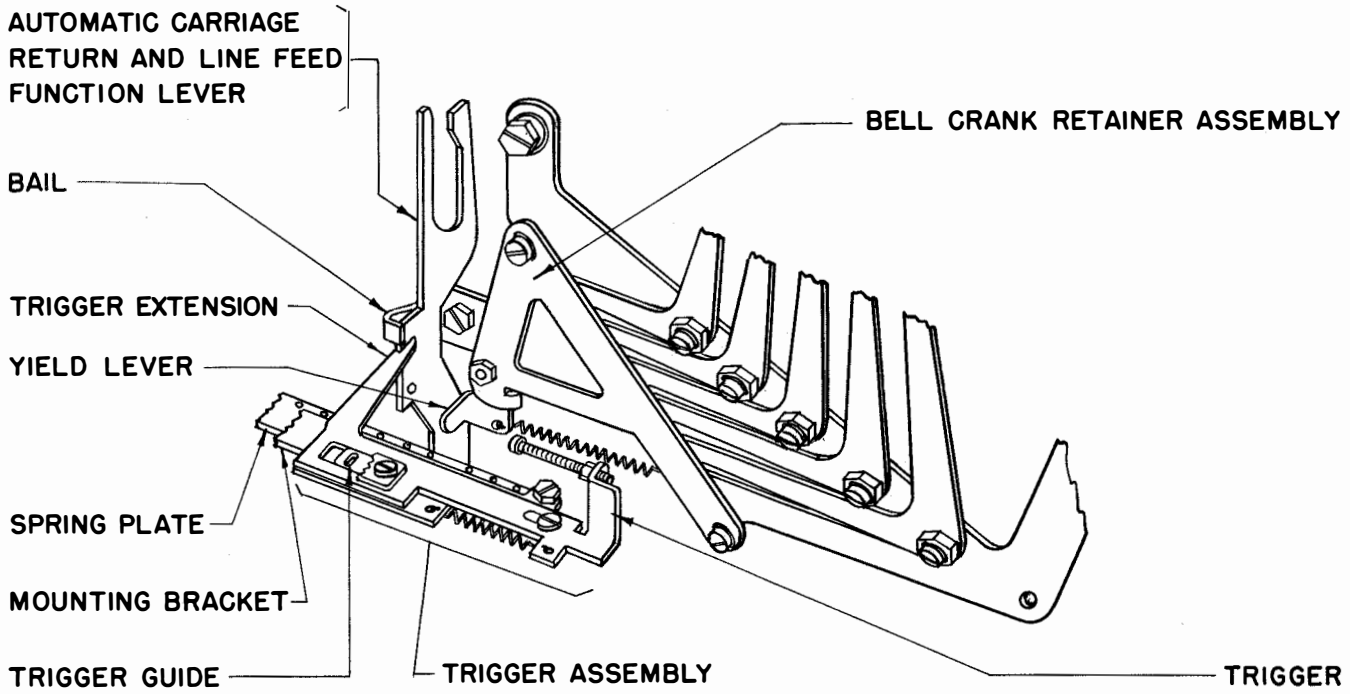
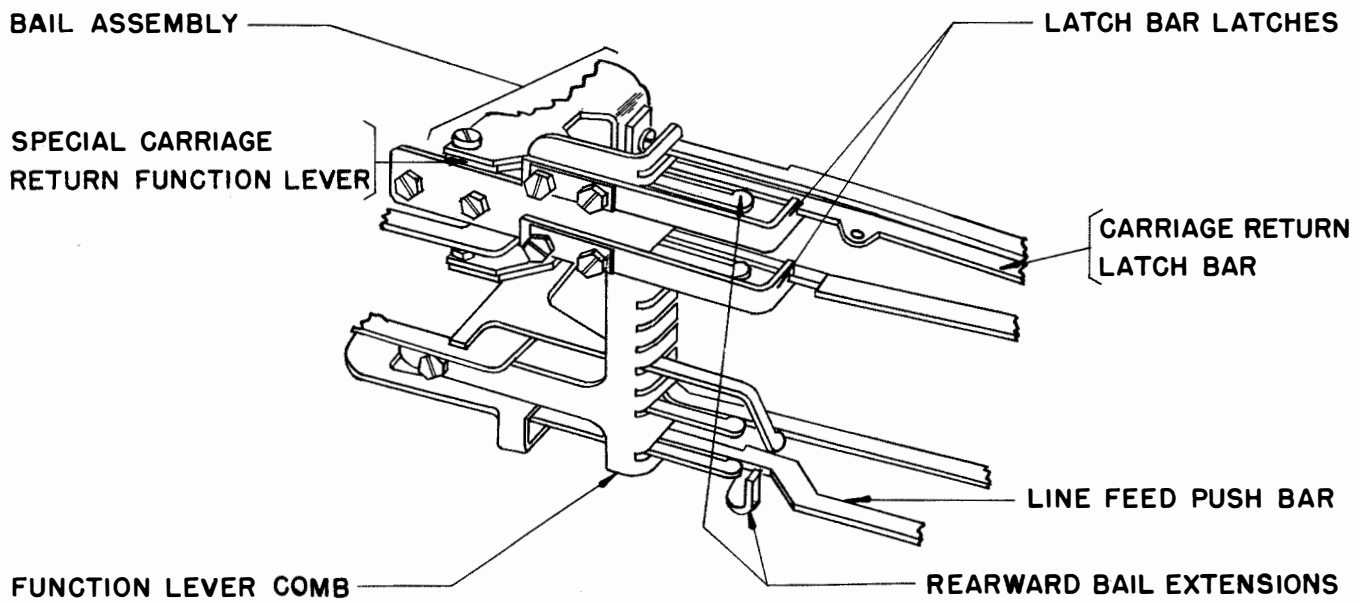

FIGURE 1
FIGURE 2
c. Automatic carriage return and line feed is accomplished by a bail assembly, a trigger assembly, and a bell crank retainer assembly (Figures 1 and 2). When the type bar carriage reaches the end of a line, a yield lever on the lower end of the bell crank retainer (Figure 1) engages a screw on the trigger of the trigger assembly thereby moving the trigger (along with its extension) to the right. When this occurs, the automatic carriage return and line feed function lever (Figure 1) of the bail assembly, normally blocked by the trigger extension, is unblocked. This function lever then moves forward and operates a bail, whose rearward extensions (Figure 2) move the carriage return latch bar and the line feed push bar into their selected positions.
a. Remove the type bar carriage from the typing unit. Install a handwheel on the right-hand end of the main shaft. Replace the present blocking bail with the 106038 or the 105381 blocking bail furnished with the set of parts. Remove the function lever comb and the latch-bar latches (Figure 2) as an assembly. Unhook, from the spring plate, the springs of the carriage return and line feed function levers and also the springs of the function levers that fit in slots 3 and 4 of the vane frame. Keep the springs in their proper order. Then remove these four function levers. Discard the carriage return function lever and the line feed function lever, but retain the other two function levers.
e. Remove the latch bar latches (Figure 2) from the function lever comb (removed per paragraph a) and mount them on the 74255 function lever comb furnished with the set of parts by means of the screws and lock washers just removed. Then install the new function lever comb assembly with the screws that formerly mounted the old function lever comb removed per paragraph a.
*f. Remove and discard the 74415 guide bracket and 74059 screws. Disengage all function lever springs from the spring plate and then remove the two 6746 screws and the 2191 lock washers from the spring plate. Replace the two 6746 screws with the two 80342 screws furnished with the set of parts and then place on these screws two 2191 lock washers previously removed, and two 7002 washers furnished with the set of parts. Install the 107102 trigger assembly furnished with the set of parts immediately above the spring plate (Figure 1) and secure it with the two screws, washers, and lock washers that mount the spring plate. Rehook all function lever springs to the spring plate. Install the 88959 intermediate lever guide furnished with the set of parts in the position that was formerly occupied by the 74415 guide bracket. Use the two 6746 screws furnished with the set of parts and the two 2191 lock washers and the two 7002 washers (which were used to help mount the 74415 guide bracket) for this purpose.
g. Replace the type bar carriage and lock it in its extreme left-hand position. Remove and discard the present bell crank retainer and replace it with the 107103 bell crank retainer assembly (Figure 1). Make certain that the spacers which were just removed are reinstalled in their proper place and that the screws and lock washers just removed are used to mount the 107103 bell crank retainer assembly.